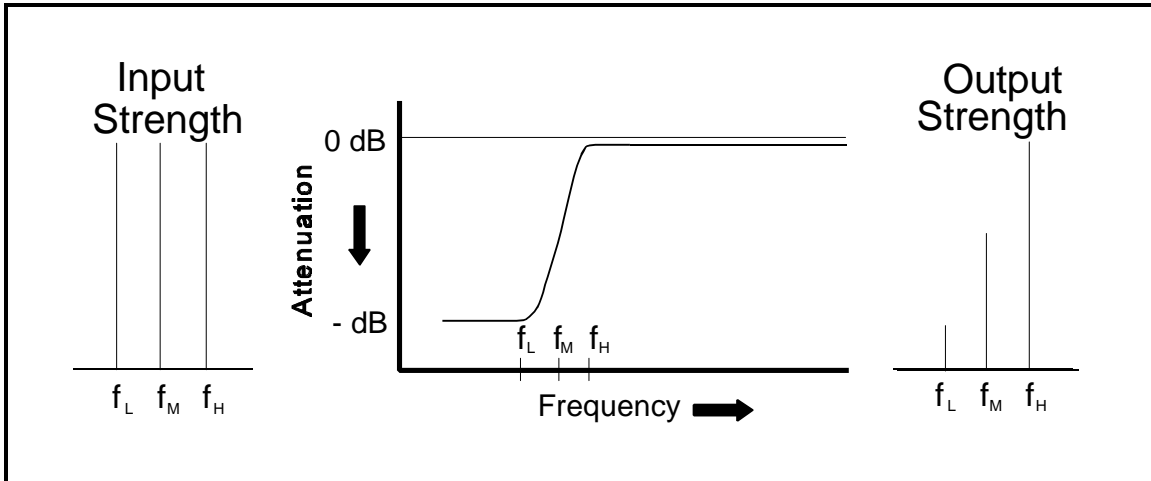

Figure 2. High-Pass Filter
2. A high-pass filter which passes the high frequency signals above a predetermined value as in Figure 2.